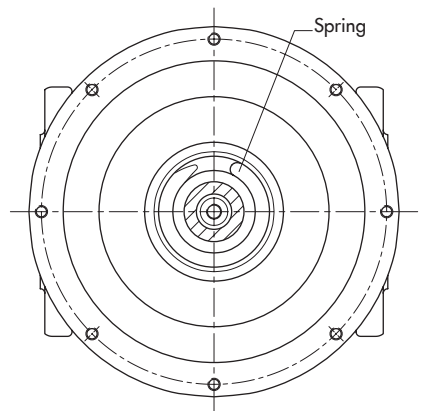

Fig. 3: Alignment of the spring
4. Insert gasket (1.2) into the body. Place the valve bonnet (5) on the body. In the fail-close version, lift the plug stem and carefully guide it through the packing. Fasten the valve bonnet by evenly tightening the nuts (1.1). Thread the lock nut (3.2) onto the plug stem until it reaches the thread end. Place on washer (3.3).
5. Insert spring (5.5) into the valve bonnet and align it according to Fig. 3. Screw spring plate (5.6) on the plug stem by hand, until it rests on the spring. Align the cam of the spring plate cams so that it is positioned above the recess of the diaphragm case.